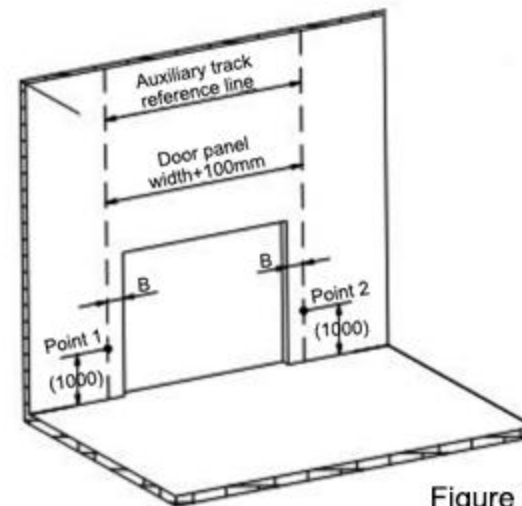

Figure 2-1
2.1 Use a horizontal pipe to determine a horizontal reference line at a position about 1000mm from the ground on both sides of the door opening, and the error of the horizontal reference line on both sides is not greater than 2mm (as shown in Figure 2-1);
2.3 According to B, draw point 1 and point 2 with a pencil on the horizontal line position on both sides of the door opening, and then use a line hammer and pencil to draw the reference line outside the auxiliary rail according to point 1 and point 2: the verticality of the reference line is guaranteed to be 0.05mm, and the two Baselines are parallel. (Figure 2-1)